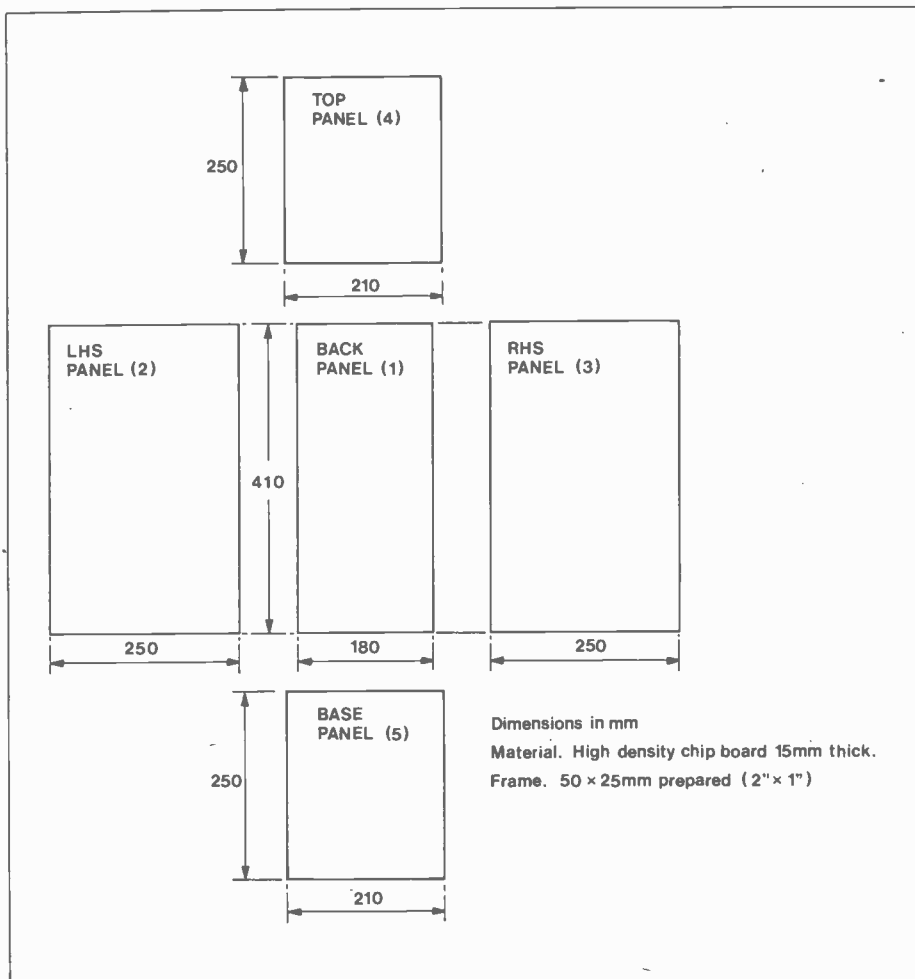

Figure 4. Panel cutting details.
the 210mm width measurement on panels (4) and (5) only, to allow for the change. Figure 4 gives the panel layout.